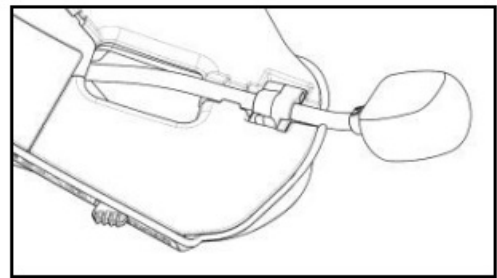

Fig. 17
- Close the clip. Make sure that the microphone side with the letter “n” is facing the inside of the helmet (Fig. 17).